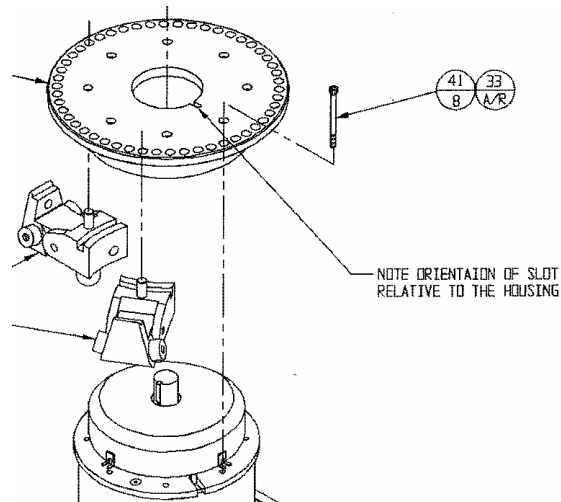

Figure 7 ROM Ring Installation Torque
- 2.31. Re-install the ROM ring. Apply blue Loctite to the ROM Ring Screws and tighten to 100 INCH-POUNDS (70 NEWTON-CENTIMETERS). (Figure 7, Items 33 and 41).